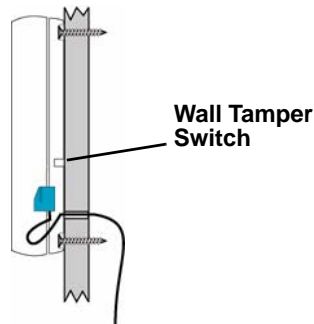

Figure 5 Mount the Transmitter to the Wall
1. Route the external wiring through the wall, as shown in Figure 5.